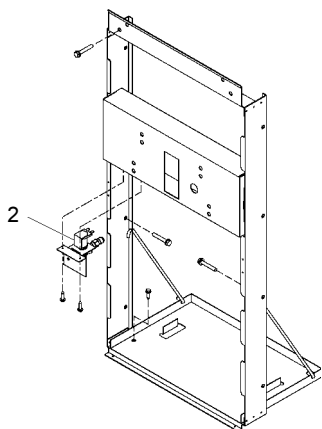

FIG. 3
3. Attach solenoid valve assy to the underside of cross member of mounting frame, on dual station fountain soleniod valve assy mounts to frame with chiller. See Fig 3.